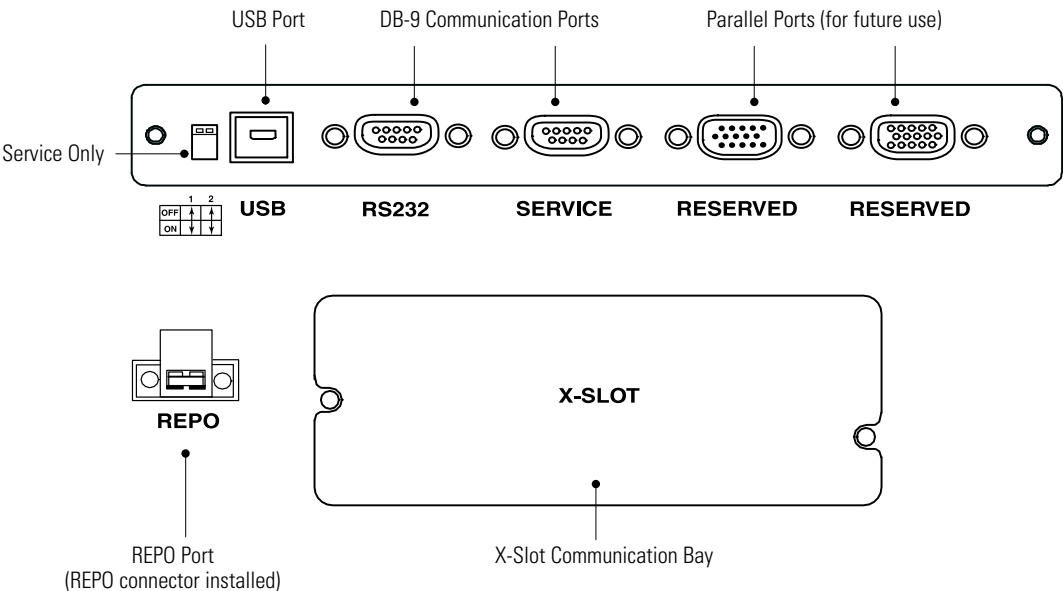

Figure 38. Communication Options
The Eaton 9140 UPS is equipped with a USB port, a REPO port, two DB-9 communication ports, and an X-Slot communication bay (see Figure 38). Two parallel ports are available for future use.
1. The USB port is hot-pluggable. Connect the USB cable to the USB port on the UPS rear panel (see Figure 38).
To establish communication between the UPS and a computer, connect your computer to the RS-232 UPS communication port using the supplied serial communication cable (see Figure 38 on page 75).
See Figure 38 on page 75 for the location of the X-Slot communication bay.